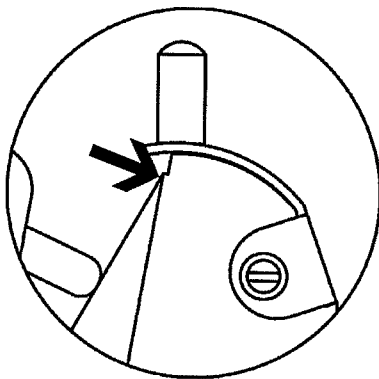

Fig. 30.2
- Turn the knurled wheels (6) in opposite directions to the rear to position the knife edge parallel and at the level of the locating edge (Fig. 30.2) of the rear clamping jaws.
- To clamp the knife (4), tighten the two clamping screws (2) uniformly by turning them clockwise.
Please refer to 15.5.1 Knife holder N (Fig. 30.2).